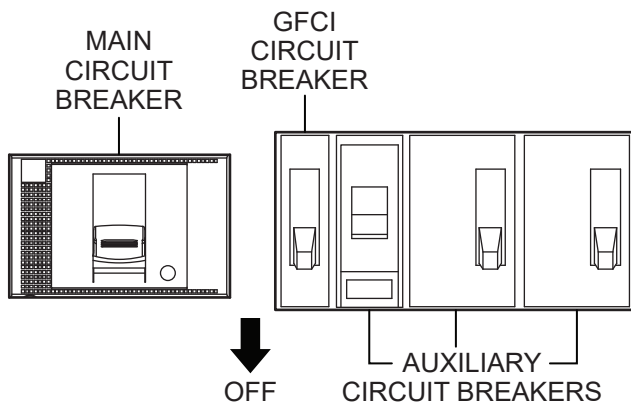

Figure 26. Main, Auxiliary, And GFCI Circuit Breakers (OFF)
1. Place the **main, auxiliary, and GFCI** circuit breakers (Figure 26) in the **OFF** position prior to starting the engine.